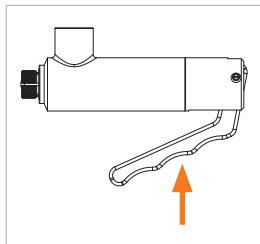

Figure 4
- ▶ Actuate the hand lever (Pos. 2) (*Figure 4*). The clamping jaws will close together.